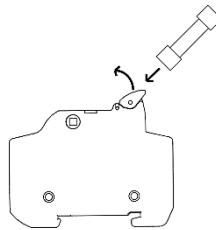

Figure 3-19 Installation of Fuses
4. Install all fuses as shown in Figure 3-19.